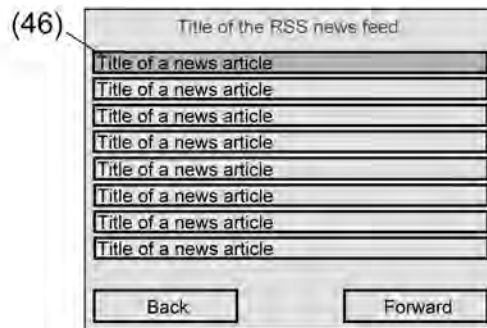

Figure 43: Display page of an RSS newsfeed
As soon as the operator taps an RSS button, the panel switches to the inbox display page of the appropriate RSS newsfeed (figure 43).
- i** The Read mode of a feed item can only be opened when the panel has fully loaded all the items of the appropriate RSS newsfeeds. If the loading operation has not be completed, then, when the "Read" button of an item is tapped, the panel will not react (figure 43). In this case, it is advisable to wait until the loading operation, which always takes place in the background, has been completed.